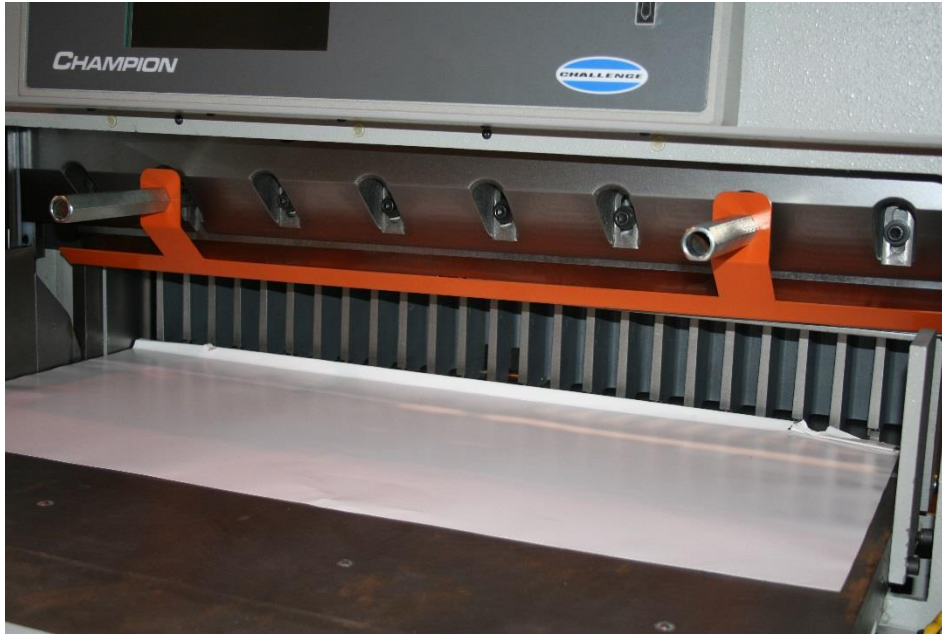

Figure 17
8. Remove the bolts in the two slotted holes of the knife bar and replace them with the knife lifter assembly. Tighten the lifters enough to hold the blade in place. Remove the remaining bolts (Figure 17 on page 27).